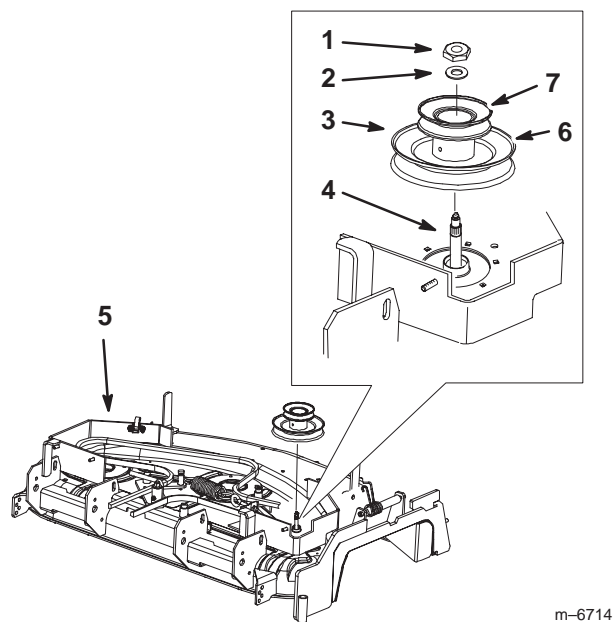
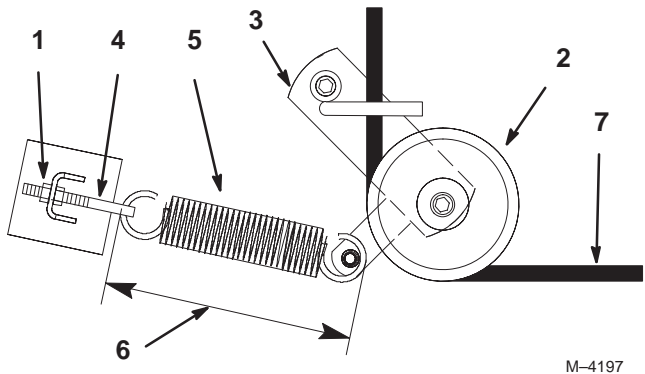

Figure 17
Figure 21
3. Remove the nut and washer on top of the spindle (Fig. 17). Save the nut and washer.
1. Install new pulley assembly onto the spindle. Install it so the large pulley is on the bottom (Fig. 17).
2. Install the washer and nut (Fig. 17).
2. Route the mower belt onto the lower pulley (Fig. 17) and idler pulley (Fig. 21).
4. Tighten the outer nut on spring eye bolt (Fig. 21).
Note: Check the spring length. The spring should measure 9–3/8 inch \pm 1/8 inch (238 mm \pm 3 mm) when installed. Adjust if it does not (Fig. 21).
5. Tighten the inner nut on spring eye bolt (Fig. 21).